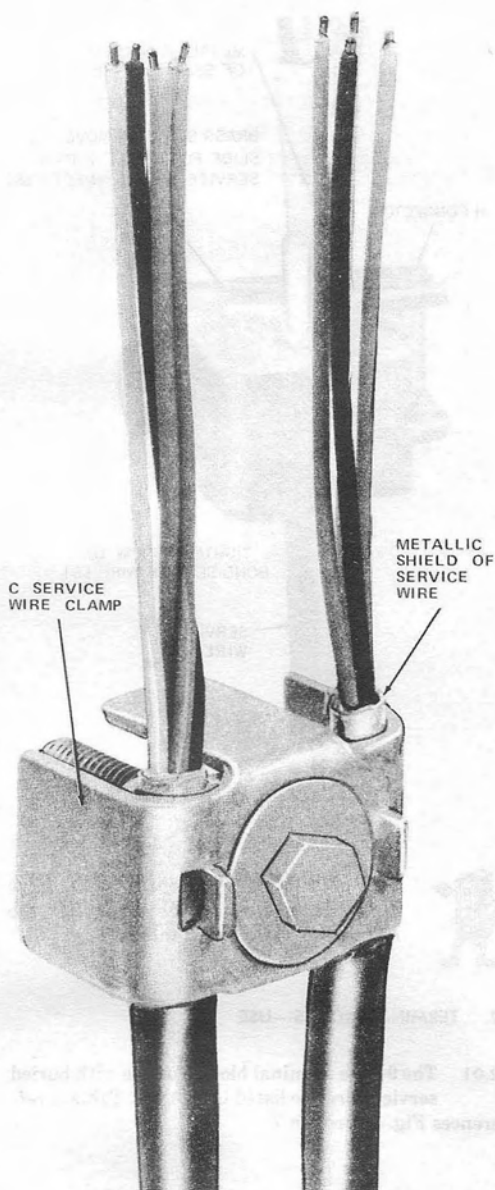
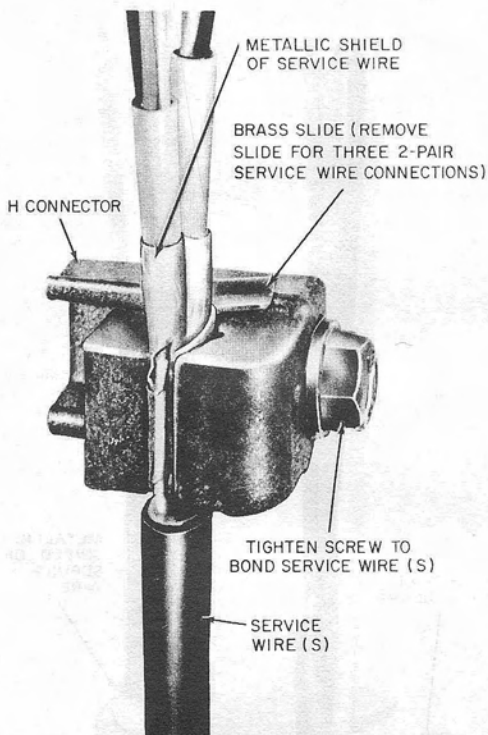

Fig. 3—C Service Wire Clamp
Fig. 4—H2 Connector AT-8980
1.10 The C service wire clamp (Fig. 3) and the H connector (Fig. 4) are used to terminate the shields of buried wire. The H connector is available in two sizes. The smaller, size 1 connector, is intended for copper conductor sizes No. 4, 6, 8, 10, and 12 in any combination. The size 2 connector is intended for attaching copper conductor sizes No. 12 through No. 4 to copper conductors No. 8 through 1/0 or to armored bare grounding conductors No. 8 through No. 4.
the metallic shield of the service wire in the C service wire clamp as illustrated in Fig. 3.
4.09 **DANGER:** *The metallic tape of BSW-2/22-GRE (E amored service wire) is stainless steel. After the excess tape has been removed, round the edges to prevent injury.* To terminate service wire in an 85-type cable terminal, prepare the service wire as shown in Fig. 8. Install the metallic shield of the service wire in the C service wire clamp as illustrated in Fig. 3.